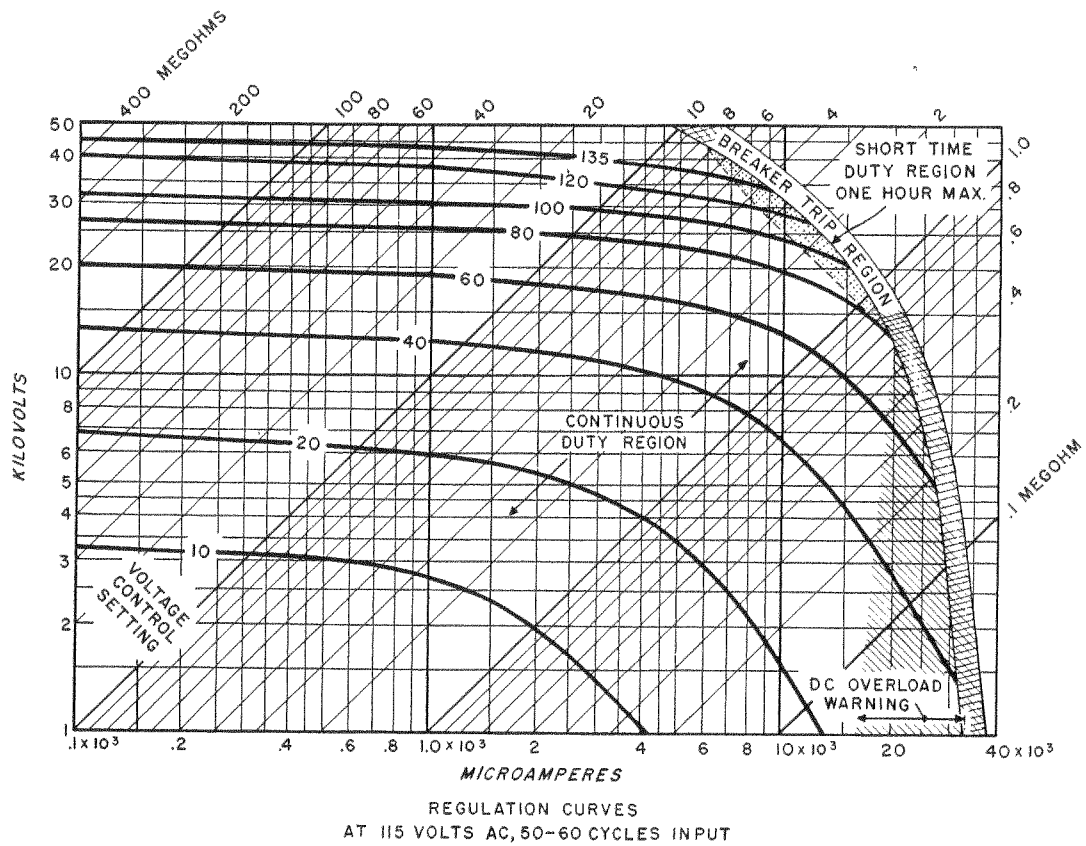

Figure 7 - Voltage regulation curves for Catalog Nos. 22040 and 22040-1
d. A desirable test to prove the proper overall operation of the set is to check its voltage regulation under load. To make a one point check on the regulation curves given in Figure 7, a resistor of the proper voltage and wattage rating is connected between the high-voltage terminal and ground. For example, a 1 megohm resistor rated at 15 kv and 225 watts would, based on a 115 volt input and a voltage control setting of about 30, check the 15 milliamperes point on the chart in Figure 7.